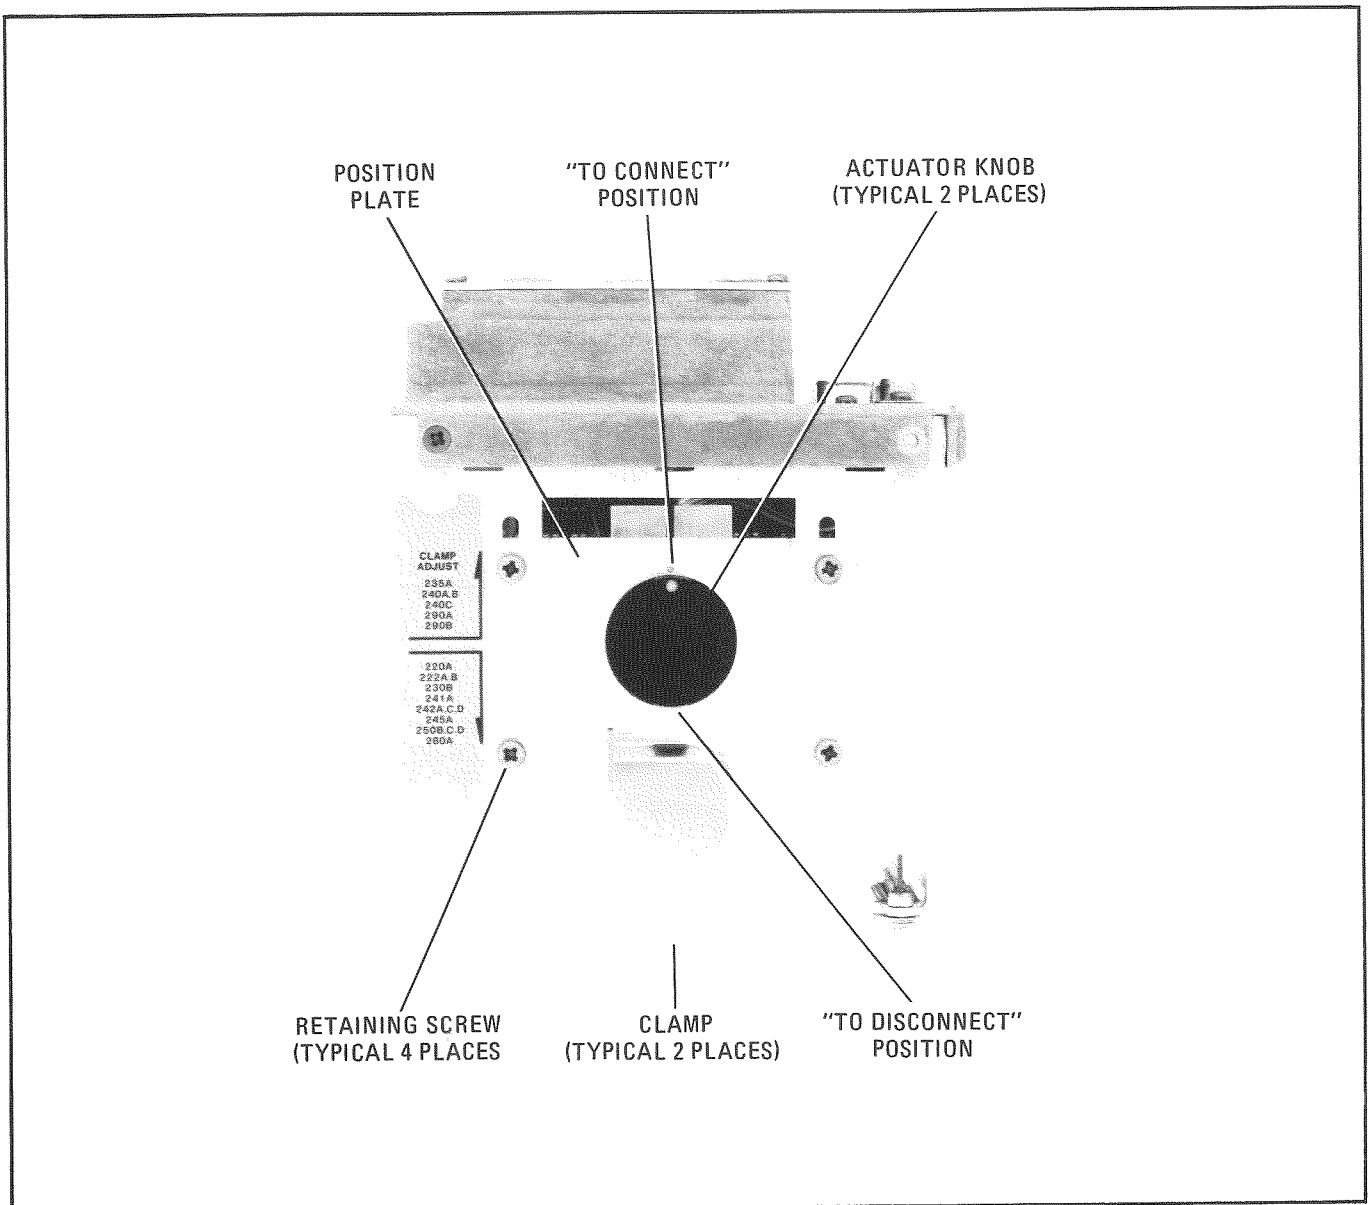

Figure 2-2. Bottom Position - Plate Mechanism
- a. On the 11869A, set the top and bottom black actuator knobs (Figure 2-2) to "TO DISCONNECT" position. (This extends the clamps.)
- b. Look at the CLAMP ADJUST instructions on the bottom of the 11869A adapter and select the position required for the RF Plug-in being used. (If the correct position is selected, go to the next step.) Loosen the four retaining screws (Figure 2-2), slide the position plate to the proper position, then tighten the four retaining screws.
Do not exert excessive turning pressure on the actuator knob (Figure 2-2) or damage to the clamp mechanism may result. Be sure the Clamp Position Plate is in the correct position and that the interface connectors are mated properly.